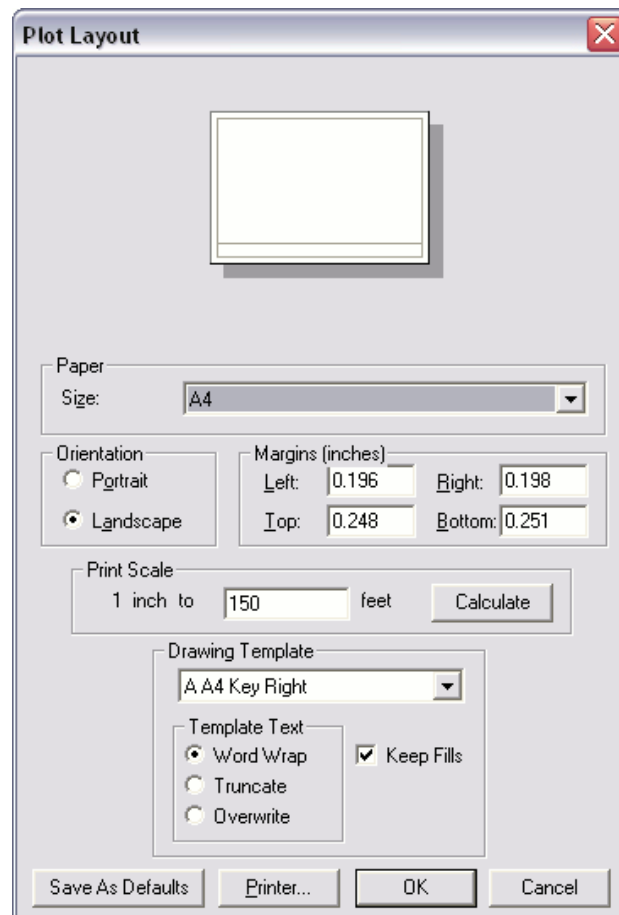

Figure 4-88
7. Select a "Drawing Template" from the dropdown list. Selected the B A3 Key Bottom for the B (A3) paper size. For A (A4) size paper select the A A4 Key Bottom and for C (A2) size paper select the C A2 Key Bottom. In general, you should always select a template to match the selected paper size. Your dialog should look like Figure 4-88.